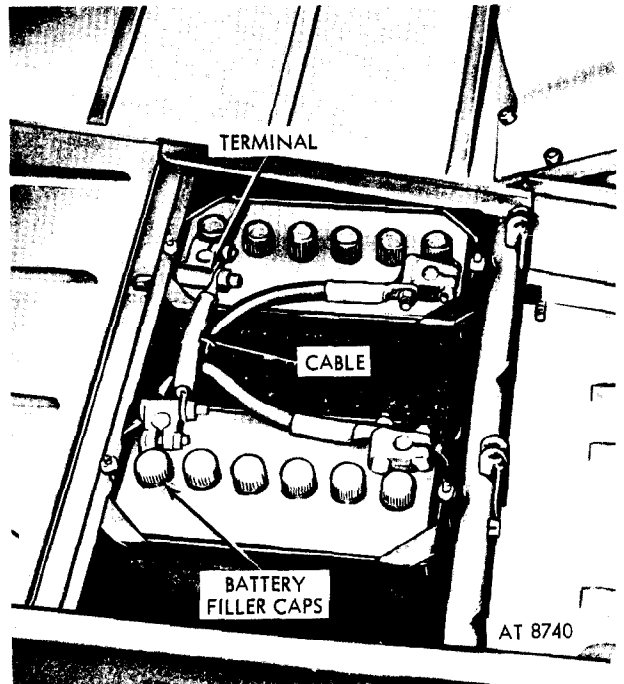

Figure 3-17. Batteries and battery filler caps.
b. Unscrew the six filler caps (fig 3-17) one by one from each battery, inspecting the electrolyte level and replacing the caps. If the electrolyte level is low, notify organizational